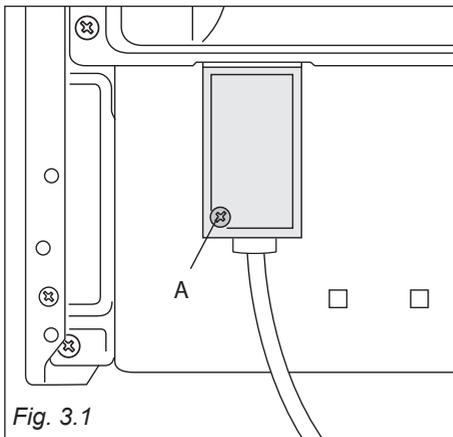

Fig. 3.1
- Remove the screw securing the cover "A" on the rear of the cooker (fig. 3.1).